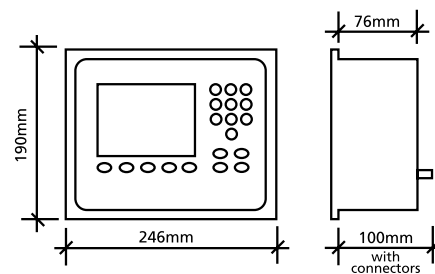

Figure 7: Steel enclosure unit
- The units may be supplied with an IP65 steel enclosure unit (6107\* figure 7).